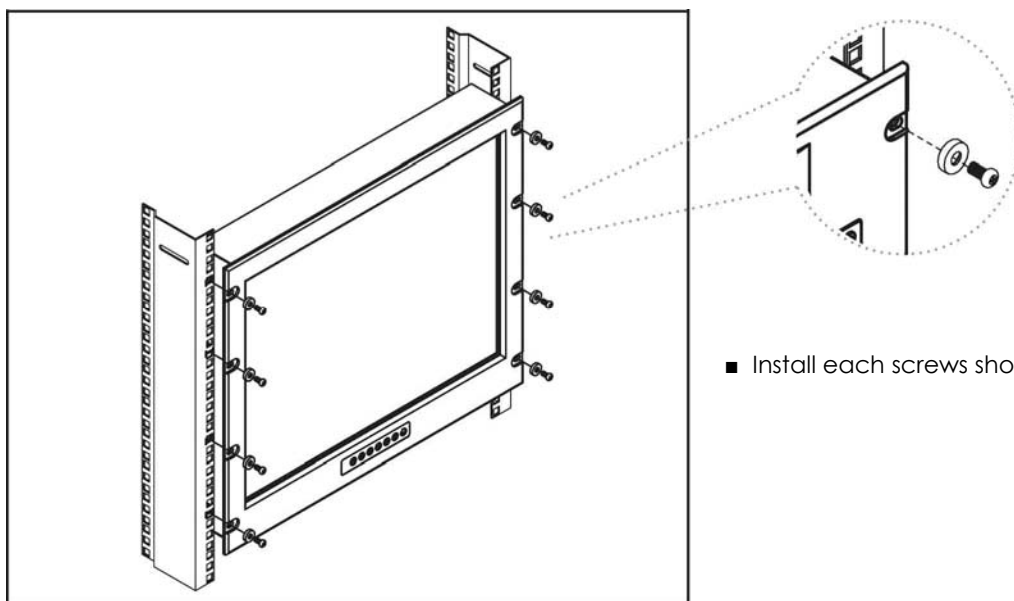

Figure 12.
- Install each screws shown in **Figure 12**.